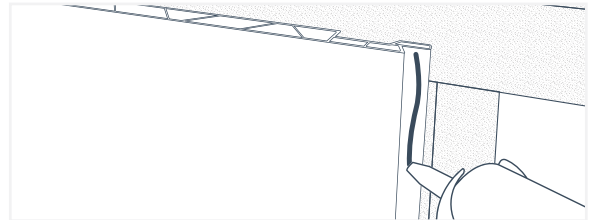
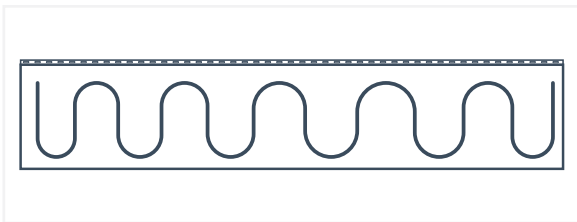

Fig. 36
Fig. 37
8. Then apply a smaller, 1/4" thick bead of silicone directly on top of the tongue of the existing adjacent panel (Fig.36). If you're using a backer, applying silicone to the back of the replacement panel is also recommended (Fig. 37).